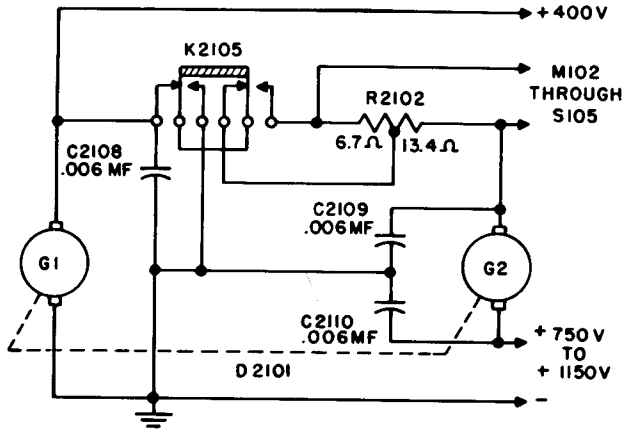

Figure 4-3. High Voltage Circuits
*a.* Figure 4-3. shows, in simplified form, the high voltage circuits employed in the equipment.
grams, figure 4-3., figure 8-13. page 8-23, figure 8-14. page 8-23, figure 8-15. page 8-24, the low voltage section of the dynamotor is designated as G1 and the high voltage section is designated as G2. When the power change relay, K2105, is in the normal position the positive lead from low voltage dynamotor section G1 is connected to the negative lead of high voltage dynamotor section G2 through the contacts of power change relay K2105, and milliammeter multiple resistor R2102. As explained in paragraph *m.*, the circuit necessary to energize the coil of power change relay K2105 is completed by the operation of the pressure-operated relay, K2106. When power change relay K2105 operates, the negative lead of high voltage dynamotor section G2 is disconnected